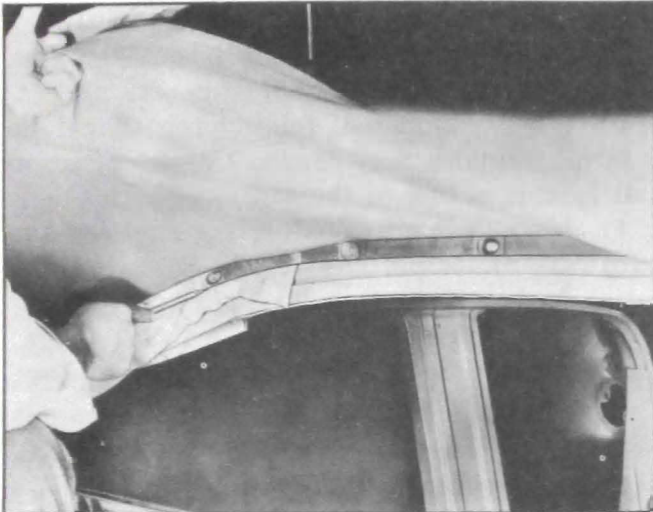

Figure 13-112—Positioning Back Curtain
20. Inside body draw down outer ends of back curtain and top material. When it has been determined that back curtain and top material are fitting properly together and to the pinch-weld finishing molding, mark curtain and top as shown in Figure 13-112 and install enough trim stick bolts to maintain position.
33. Inside of body, draw quarter section of top material to desired position with short trim stick held in place by hand. Then mark top material in same manner as was done at rear trim stick. See Figure 13-112.